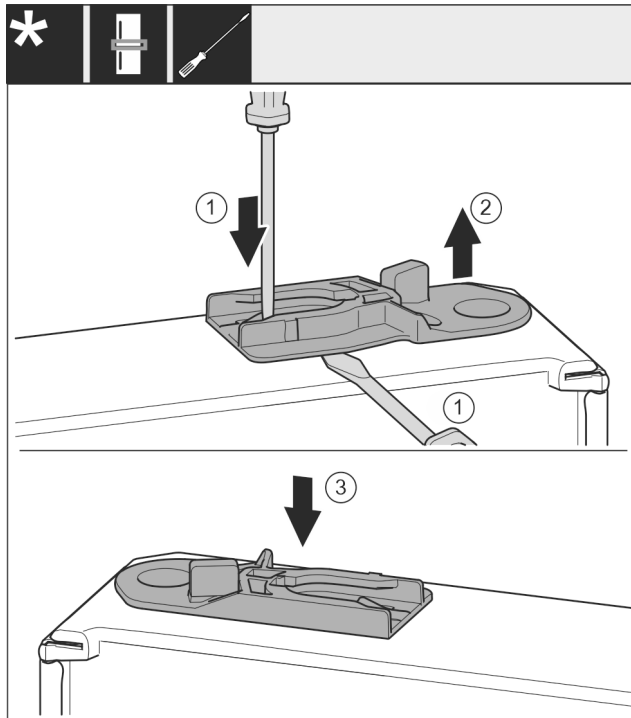

Fig. 41
- ▶ Pull out the guide bushing: Press the tab Fig. 41 (1) with the slotted screwdriver while running the slotted screwdriver under the guide bushing Fig. 41 (2) at the same time.
- ▶ Insert the guide bushing Fig. 41 (3) supplied in the scope of delivery on the other side of the housing.